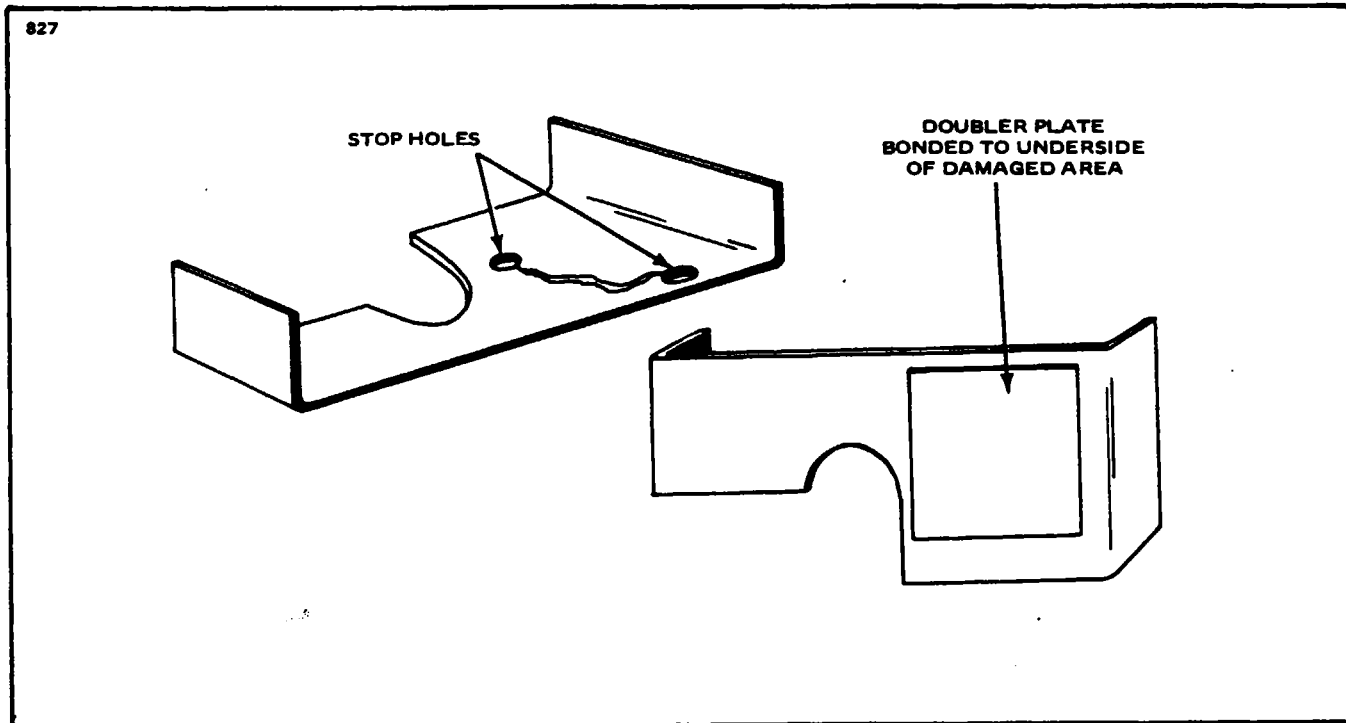

Figure 4-14. Repairing of Cracks.
- d. **Cracks:** (Refer to Figure 4-14.)